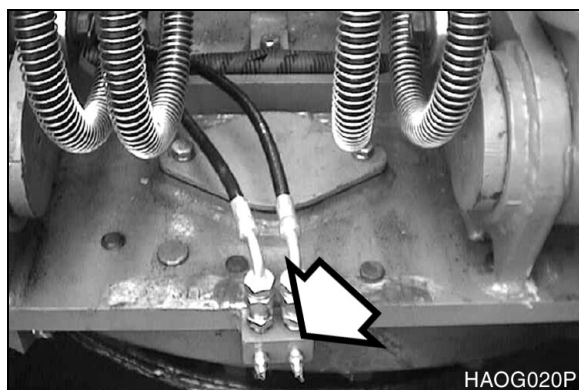

Figure 67
3. Press grease fitting and inject grease with the grease gun on the marked point. (Figure 67)